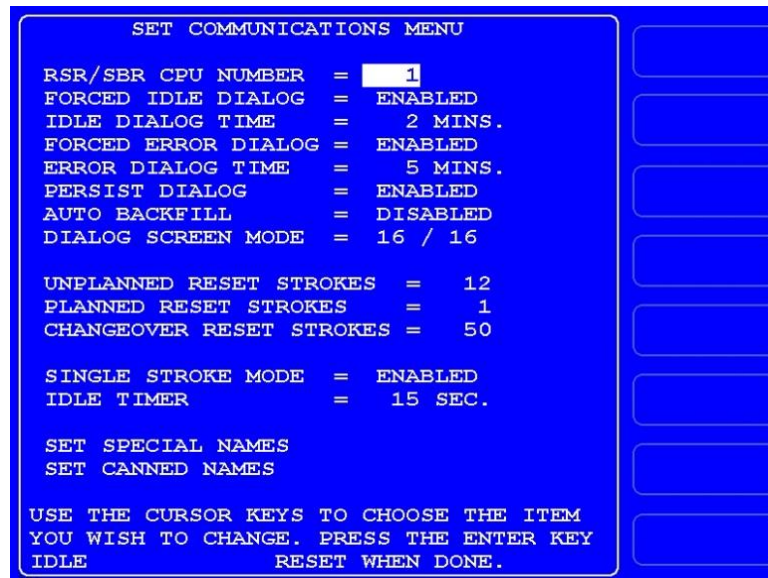

Figure 1-2 - Set Communications Menu
2. Highlight the "SETUP DATA COMMS" menu item, using the Up or Down cursor key, and press "ENTER". The Set Communications Menu (see *Figure 1-2*) displays.